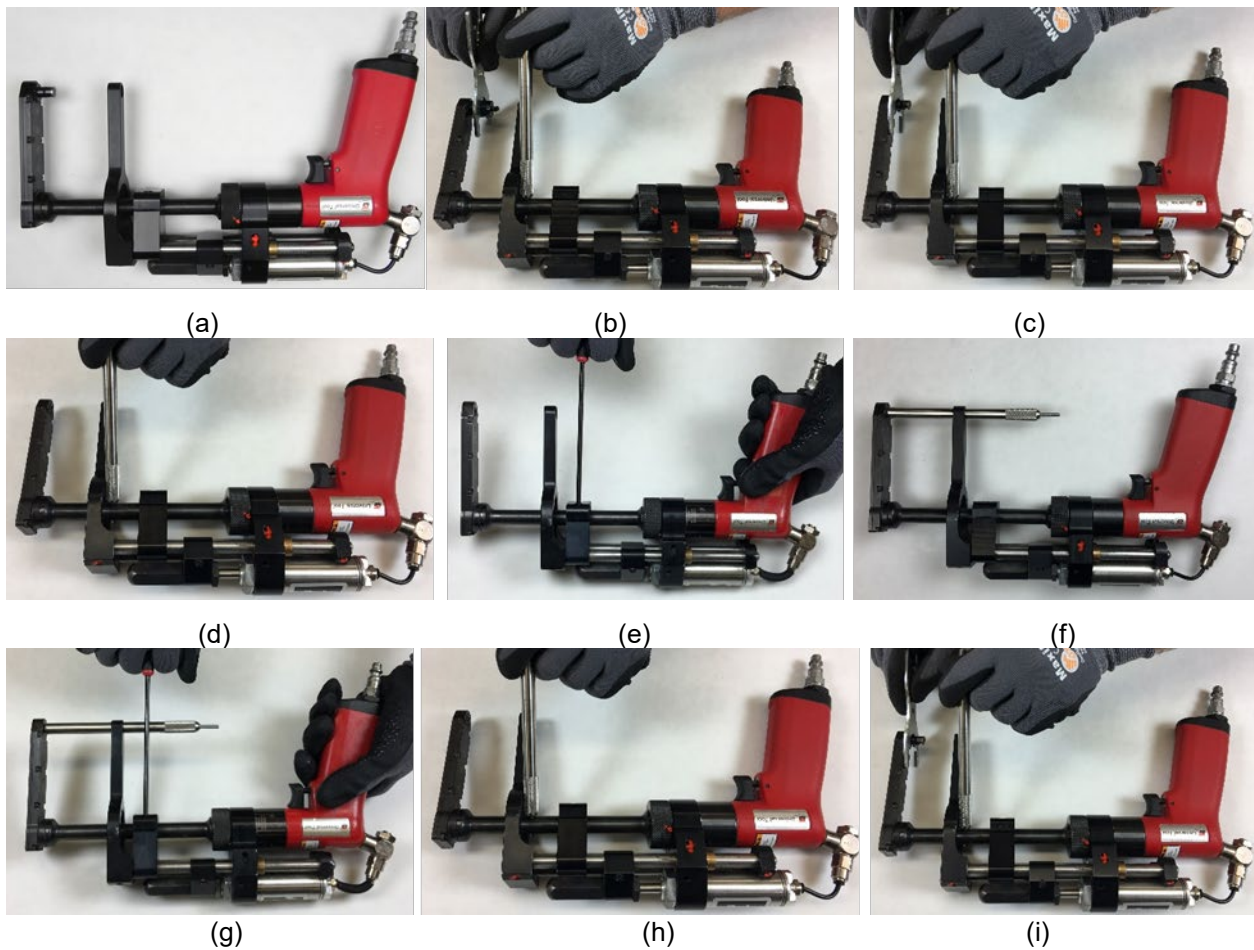

Figure A-1. Steps for Proper Re-alignment of ATC Surface Preparation Tool
- i. Align spindle lock hole with hole in the L foot spindle and L foot spindle tube (Fig A-1(a))
- ii. Insert Spindle Lock/Alignment Tool and remove Spindle Quick Change Adapter (left hand threads) (Fig A-1(b))
- iii. Remove Alignment/Spindle Lock Tool (Fig A-1(c))
- iv. Loosen socket head cap screws on L foot clamp (bottom plate) and loosen knurled jam nut (slightly) where shaft meets the pneumatic tool and align transfer housing and L foot (Fig A-1(d))
- v. Thread Spindle Lock/Alignment Tool into L foot and through Transfer Housing and tighten socket head cap screws 1/4 turn, alternating as to assure an even draw down, until tight and then tighten knurled jam nut (Fig A-1(e))
- vi. Remove Alignment/Spindle Lock Tool (verify alignment of transfer housing and L foot) (Fig A-1(f))
- vii. Align spindle lock hole with hole in the L foot spindle and L foot spindle tube and insert Spindle Lock/Alignment Tool (Fig A-1(g))
- viii. Install Spindle Quick Change Adapter (left hand threads) (Fig A-1(h))
- ix. Remove Alignment/Spindle Lock Tool (Fig A-1(i))